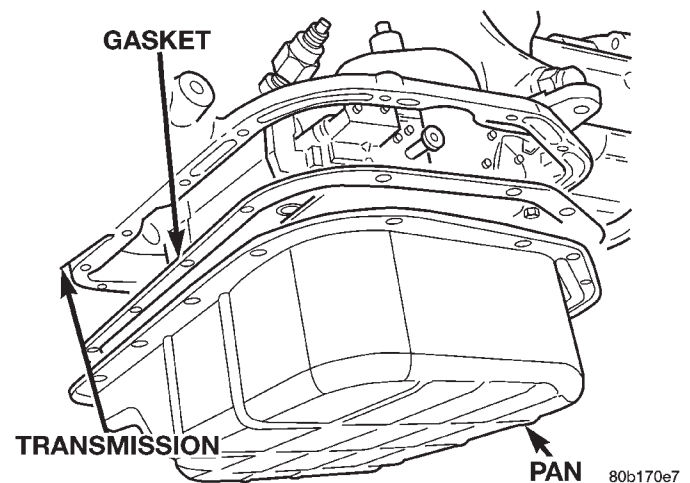
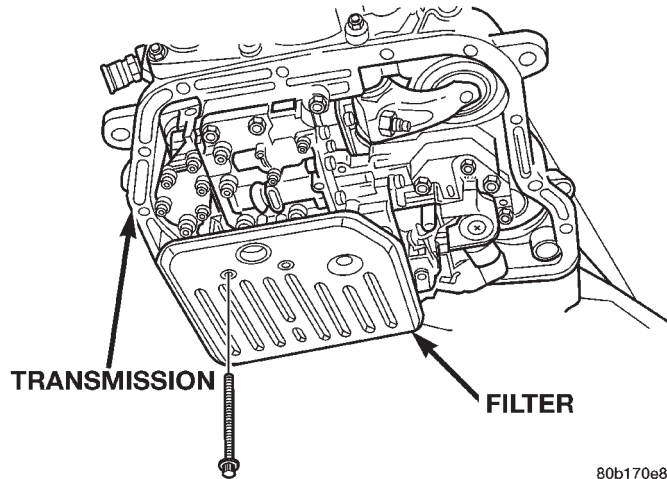

Fig. 12 Transmission Pan—Typical
Fig. 13 Transmission Filter—Typical
- (1) Hoist and support vehicle on safety stands.
- (2) Place a large diameter shallow drain pan beneath the transmission pan.
- (3) Remove bolts holding front and sides of pan to transmission (Fig. 12).
- (4) Loosen bolts holding rear of pan to transmission.
- (5) Slowly separate front of pan away from transmission allowing the fluid to drain into drain pan.
- (6) Hold up pan and remove remaining bolt holding pan to transmission.
- (7) While holding pan level, lower pan away from transmission.
- (8) Pour remaining fluid in pan into drain pan.
- (9) Remove screws holding filter to valve body (Fig. 13).
- (10) Separate filter from valve body and pour fluid in filter into drain pan.
- (11) Dispose of used trans fluid and filter properly.
- (1) Place replacement filter in position on valve body.
- (2) Install screws to hold filter to valve body (Fig. 13). Tighten screws to 4 N·m (35 in. lbs.) torque.
- (3) Place new gasket in position on pan and install pan on transmission.
- (4) Place pan in position on transmission.
- (5) Install screws to hold pan to transmission (Fig. 12). Tighten bolts to 17 N·m (150 in. lbs.) torque.
- (6) Lower vehicle and fill transmission with Mopar® ATF Plus 3, type 7176 fluid.